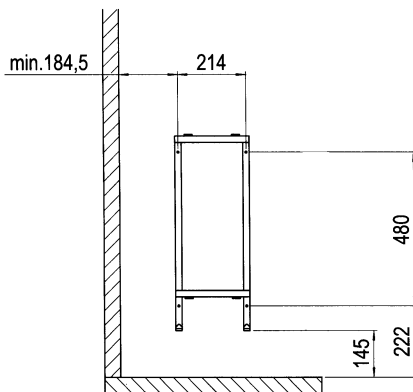

Fig.3
- Taking account of the minimum distances, screw the wall bracket to the sauna wall using the four 5x35 wooden screws supplied (see Fig.3).